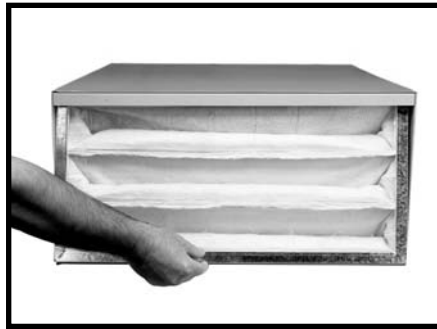

Fig. 2B
3. Remove inner filter by lifting up on the bottom and pulling out. (Fig. 2B).